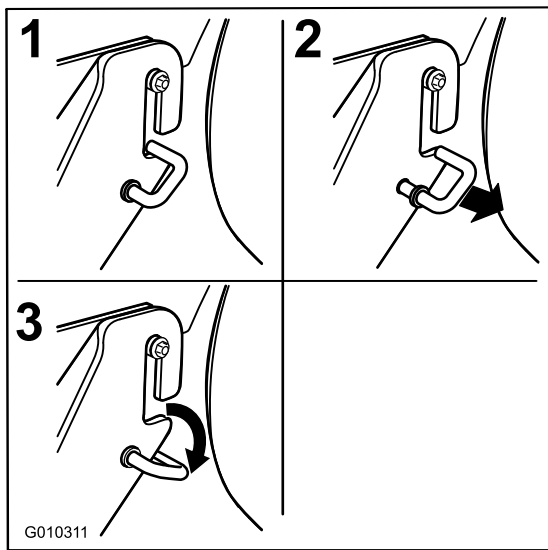

Figure 66
1. Move the spring loaded J-hooks out of the slot in the rear hanger brackets on both sides of the deck (Figure 66).